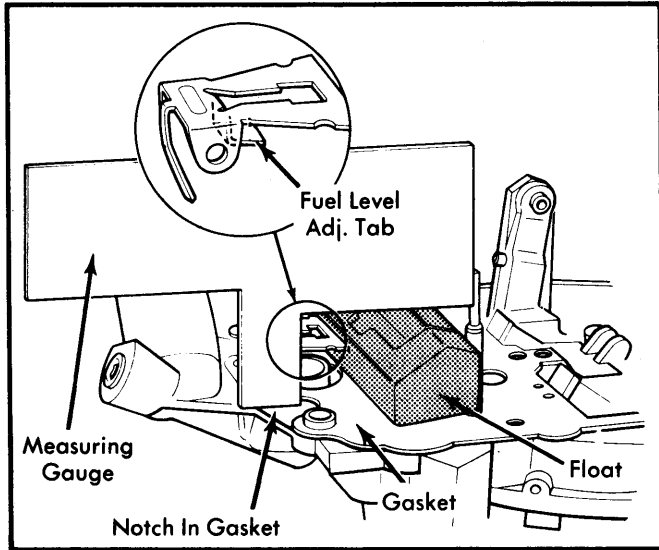

Fig. 2 Adjusting Fuel Level
1) With upper body removed, place a new upper body gasket in position. Turn upper body upside down. See Fig. 2.